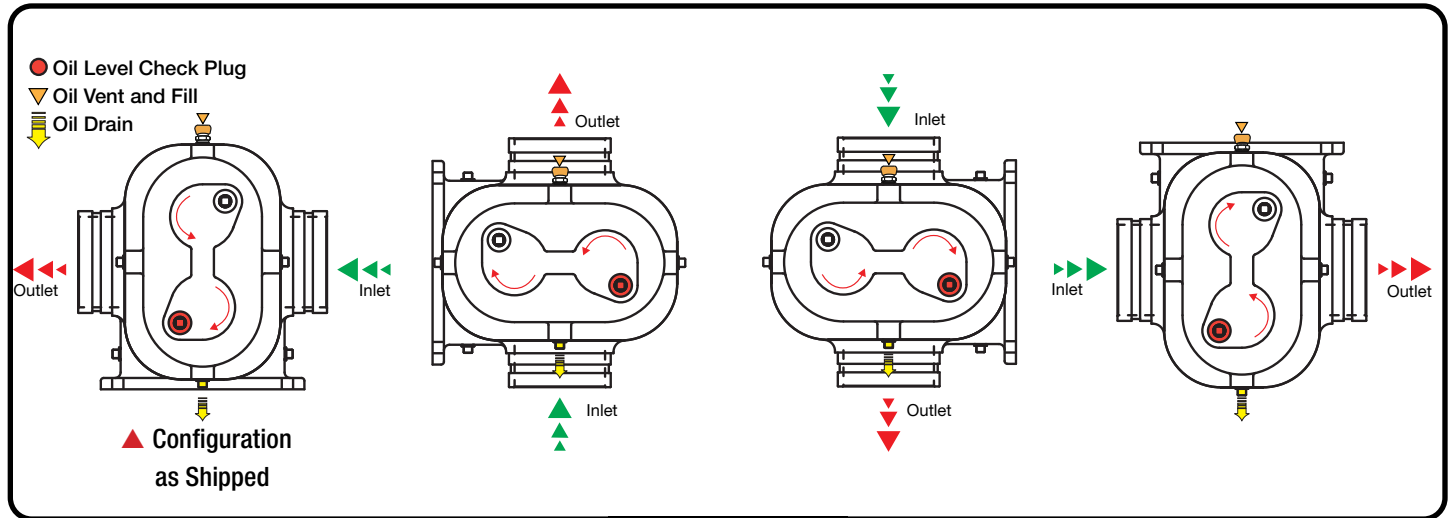
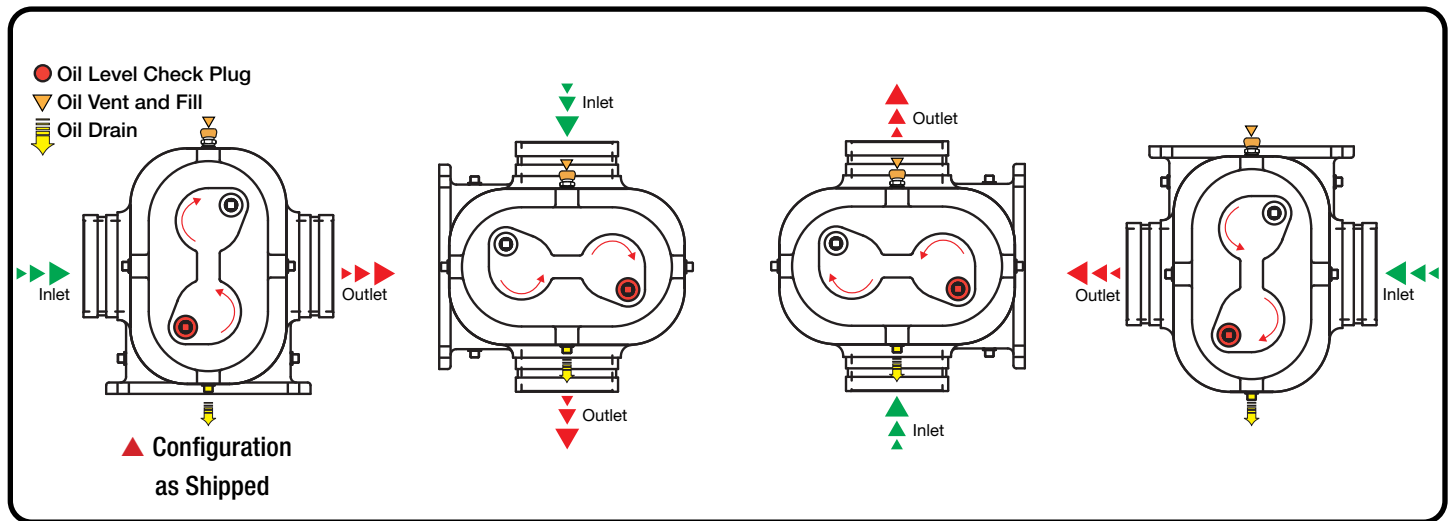

Figure 3
Figure 4
The pump can be installed in various orientations to suit your piping needs as shown in **Figure 3** below. **NOTE:** This diagram shows the standard rotation of the pump. Reverse Flow Direction is shown in **Figure 4** below. For other configurations, please contact the factory. The installed orientation affects the location of the following; Oil Level Check, Oil Fill, Oil Vent and Oil Drain. These ports utilize ¼" NPT Pipe Plugs. Refer to **Figures 3 and 4** to alert all operators and maintenance personnel of your specific installation so that proper inspection and maintenance can be performed. **NOTE:** Utilize Teflon Tape or Pipe Sealant on all timing gear cover pipe fittings.
NOTE: The left hand image in **Figures 3 and 4** illustrate the standard factory assembly configuration for the oil level plug, oil fill/vent and magnetic oil drain plug. Pump installer must re-orient these fittings to match final mounting position. Failure to do so will void warranty.
1. Check for proper oil level and placement of oil level check, oil fill, oil vent and oil drain. Refer to Figures 3 and 4 on Page 12.